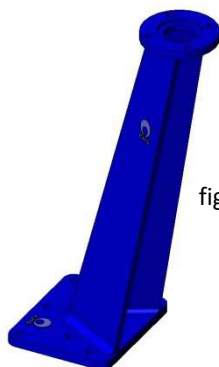

fig. 16
- Leaning floor stand (fig. 16)